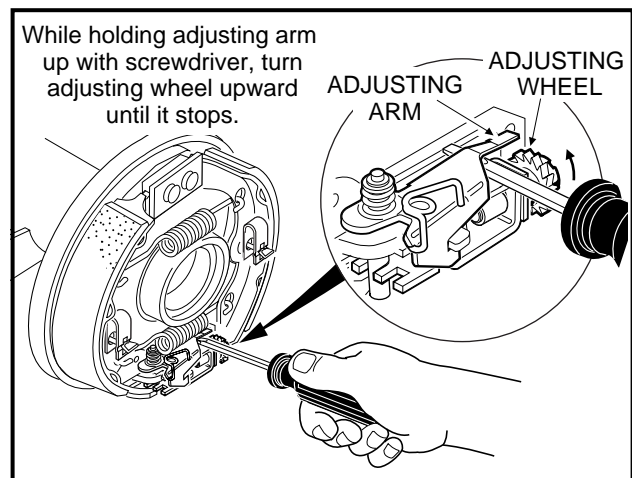

Figure 6-17 Turn Adjusting Wheel (Self-Adjusting Brakes)
6. Place a flat blade screwdriver under the adjusting arm and raise arm off of the adjusting wheel. While holding the arm up, turn the wheel upward until it stops (**Figure 6-17, Page 6-7**). Remove the screwdriver.